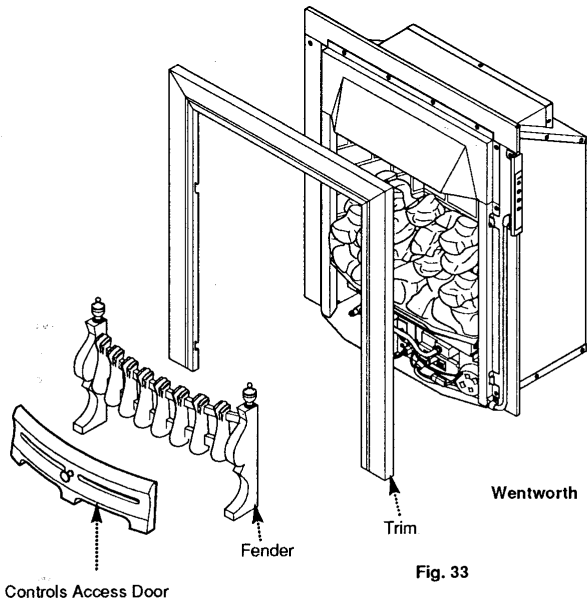

Fig. 33
2. Remove the controls access door and fender assembly (Fig. 33).
3. Remove the trim (Fig. 33).